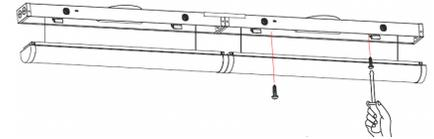

Fig. 18
7. Affix the fixture on the wall with screws to complete the installation; repeat the previous procedure to install the 3rd strip light, 4th strip light etc. (Fig. 18 & 19).